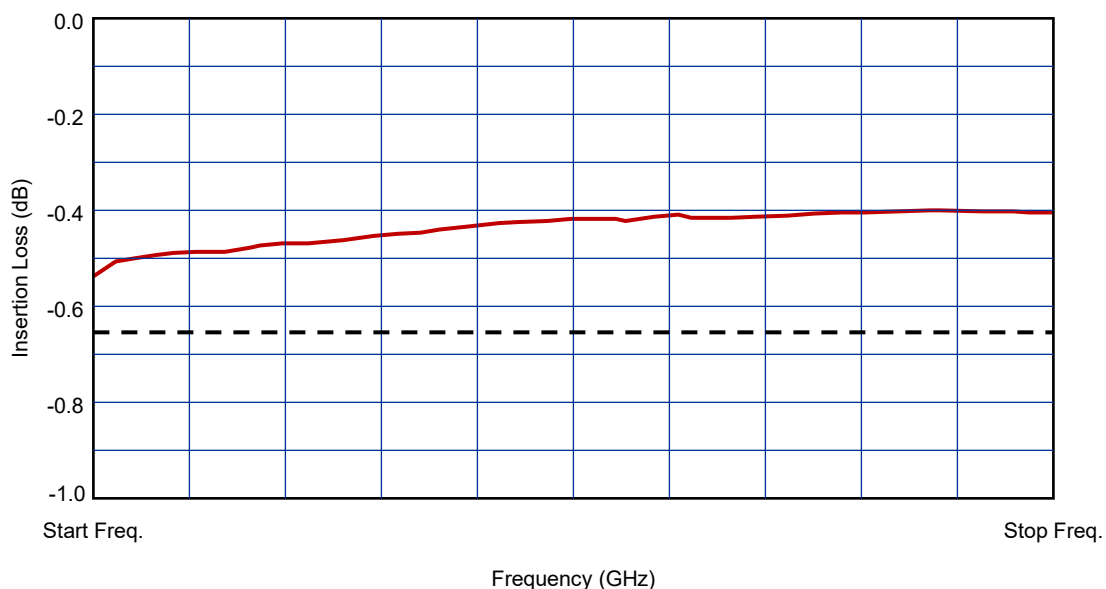

Figure 6. Insertion Loss Display (Probe Retracted)
8. Set VNA controls for a convenient display and verify that the insertion loss is as specified in Table 1 over the full frequency range of the tuner per Table 1. The VNA display should be similar to the sample shown in Figure 6.